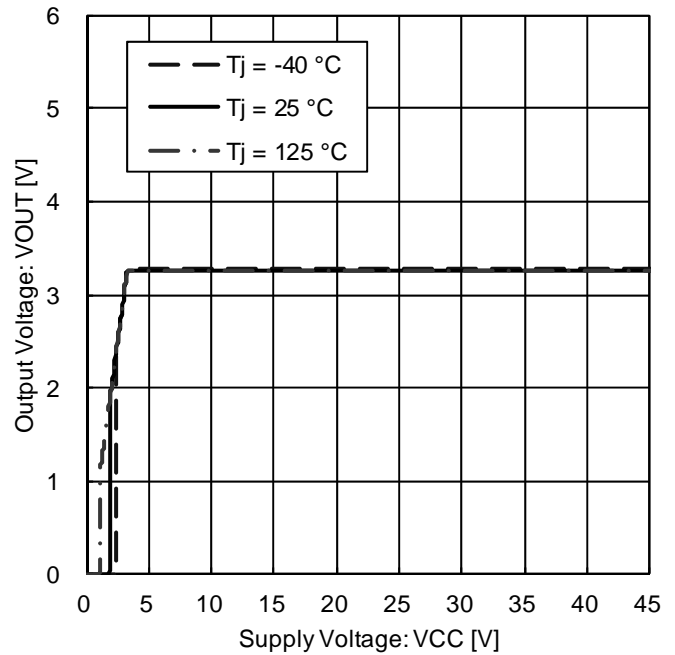

Figure 6. Output Voltage vs. Power Supply Voltage (IOUT = 0 mA)
* Magnified Figure 6. at Low Supply Voltage